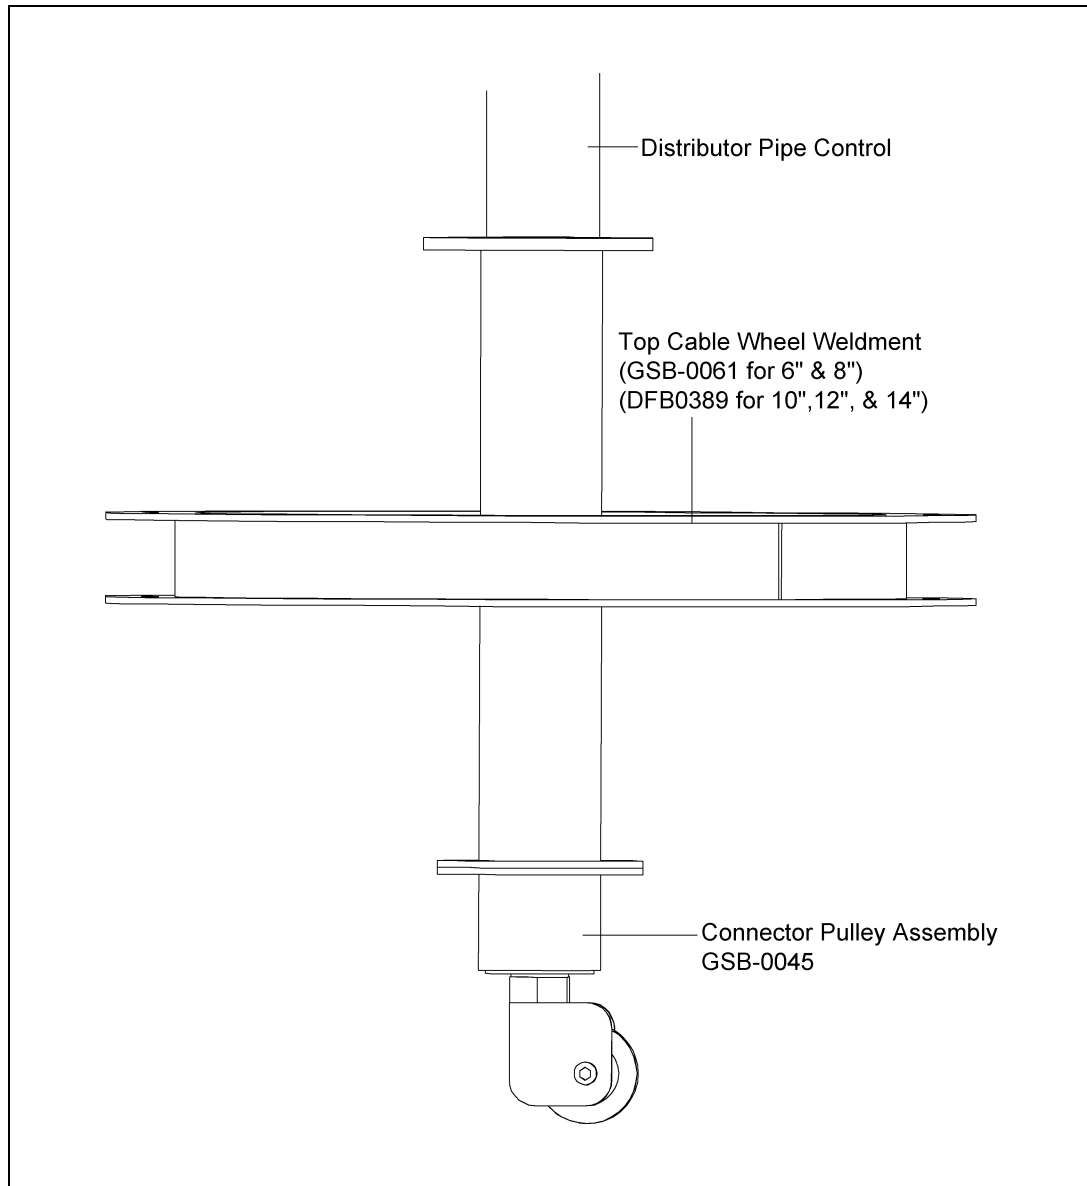

Figure 5B
The next piece to install is the connector-pulley assembly (GSB-0045). This piece mounts to the Top Cable Wheel Weldment as shown in Figure 5B. These are fastened together using (2) 5/16" x 1" bolts and whiz nuts, supplied in the hardware package (FC-DCG-HDW).